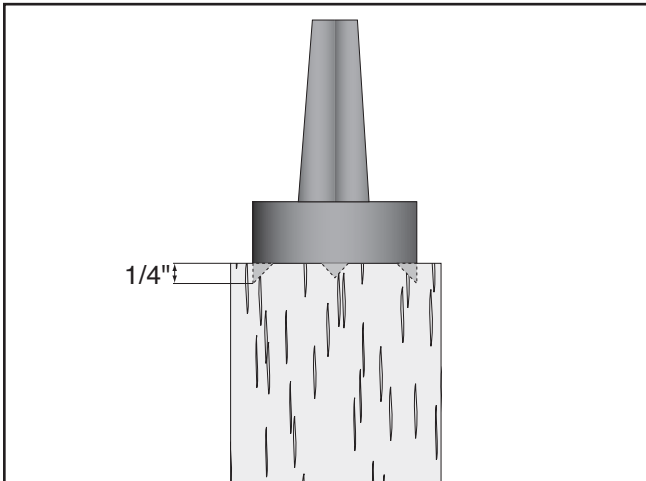

Figure 13. Spur center set into wood stock.
3. Hold the spindle vertically and support it on a solid surface. Line up the spur center with the center of the workpiece. Drive the spur center into the stock about $\frac{1}{4}$ " using a dead blow hammer. Be careful not to split the workpiece. See **Figure 13**. Wood with splits along the grain may fly off during the operation. With dense wood, drill a hole at the centers and score lines with a saw blade for the spur.